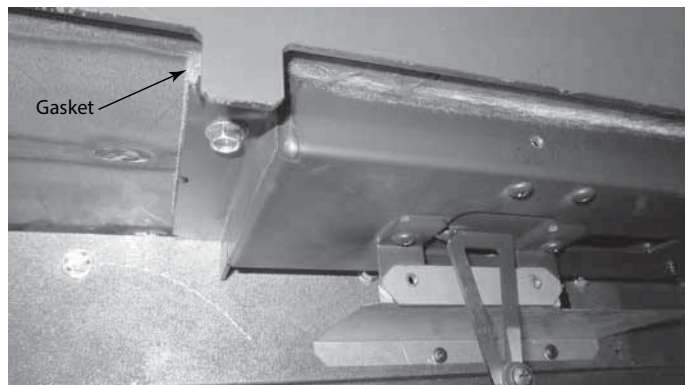

**Figure 4.21 Timer Assembly**
7. On the new timer assembly, Figure 4.21, remove the front hairpin clip and washer then two (2) screws disconnecting the air chamber before installation. See Figure 4.22.